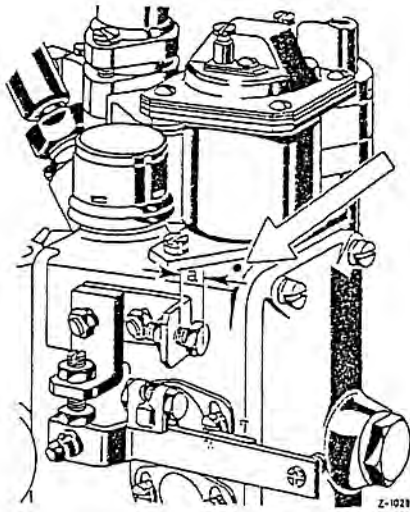

Fig. 00-16/9
By turning the idle stop screw (3) adjust the throttle valve in the venturi control unit in such a way that with the throttle valve lever (1) resting against the idle stop screw the throttle valve is completely closed without however seizing in the venturi control unit (see Fig. 00-16/1).
idle stop screw has been tampered with, the dimension "a" from the angle to the screw head in the pump housing has been stamped beside the start magnet in the ZEA pump version (see arrow in Fig. 00-16/9). E. g. number 95 means that the dimension "a" = 9.5 mm. If the measured value does not correspond to the stamped dimension, an exception can be made to the rule and the idle stop screw may be adjusted to the specified dimension. Injection pumps without the stamped dimension can only be checked and adjusted on an injection pump test bench.